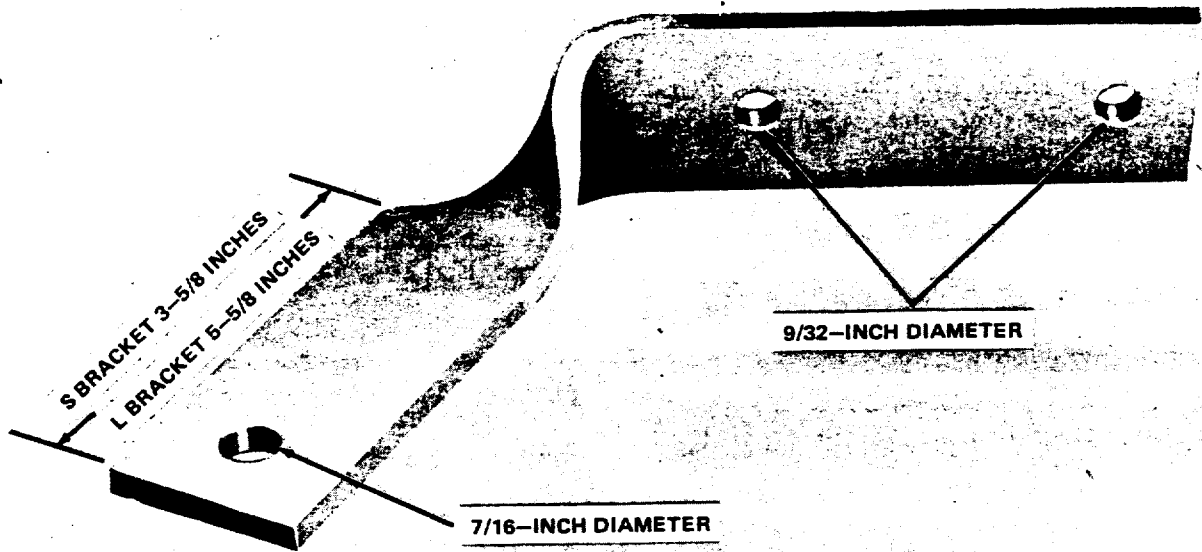

Fig. 1—Corner Bracket
1.01 The corner bracket (Fig. 1) is used as a first attachment for drop wires when it is necessary to clear a building corner.
- (a) Dimension of wall mounting holes in Fig. 1
1.03 The corner bracket is available in two sizes designated S and L. Refer to Fig. 1 for size.